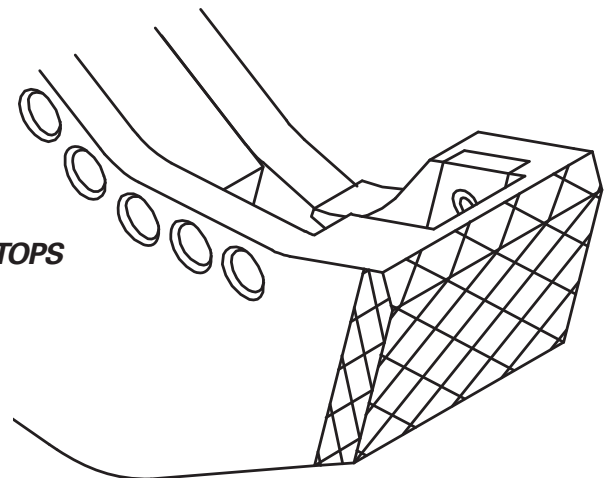

FIGURE 7-59
9. To hardsurface the front and sides of the nose plate, establish a diamond pattern of approximately 1½" (38 mm) (see figure 7-59). Again, use the build-up rod to lay down the pattern and use the hardsurface rod on top of it as in step 7.